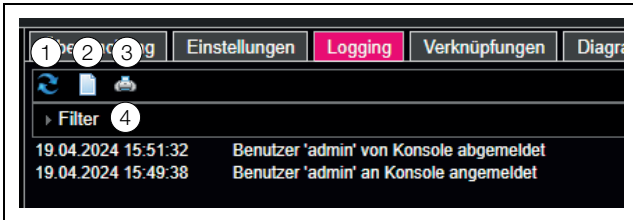

Fig. 39: Logging tab
- Click the "Filter" symbol (fig. 39, item 4).
- Click on the first symbol from the left (fig. 39, item 1). It takes a moment until all events have been reloaded from the CMC III PU 19" Edition. The refreshed list with all events is then displayed.
- Click on the third symbol from the left (fig. 39, item 3). Once again, it will take a moment until all events have been reloaded from the CMC III PU 19" Edition. The refreshed list with all events is then displayed in a separate window, and a "Print" dialogue will open.
- Click on the second symbol from the left (fig. 39, item 2). All entries are cleared from the display.